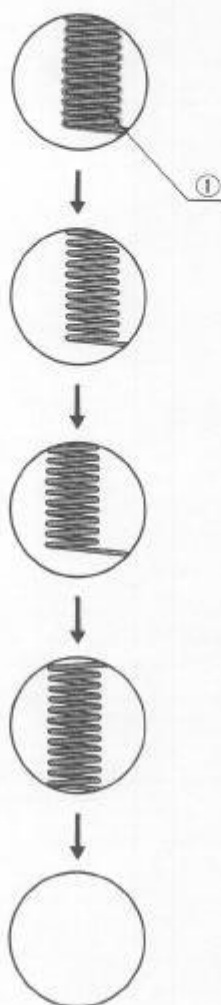

Fig. 31
- 3) Flip up the frosted filter so that the image of the bulb filament ① can be observed. (Fig. 31)